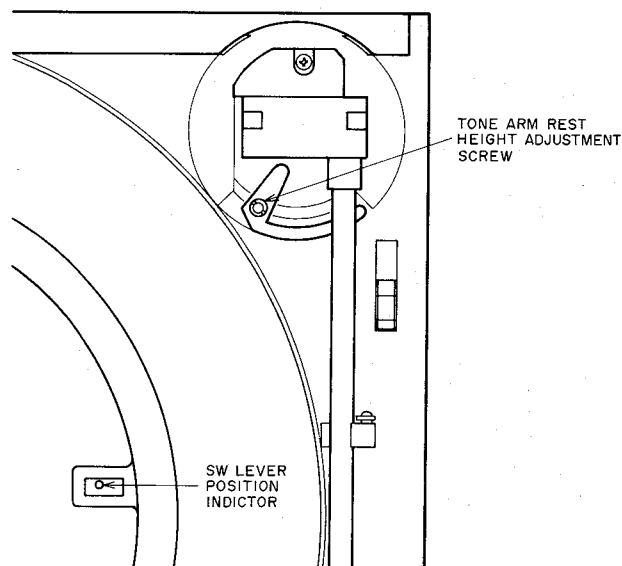

Fig. 5-13
- 9) When the tone arm is out of rest position, confirm that the white indicator shown in Fig. 5-13 is set to the outside position. If it is set towards the spindle (inside position), move the indicator to outside with your finger. Otherwise the tone arm will not go back to the rest position during cut operation even manually by hand.
## 5-3 TONE ARM REST HEIGHT ADJUSTMENT (Refer to Fig. 5-13)